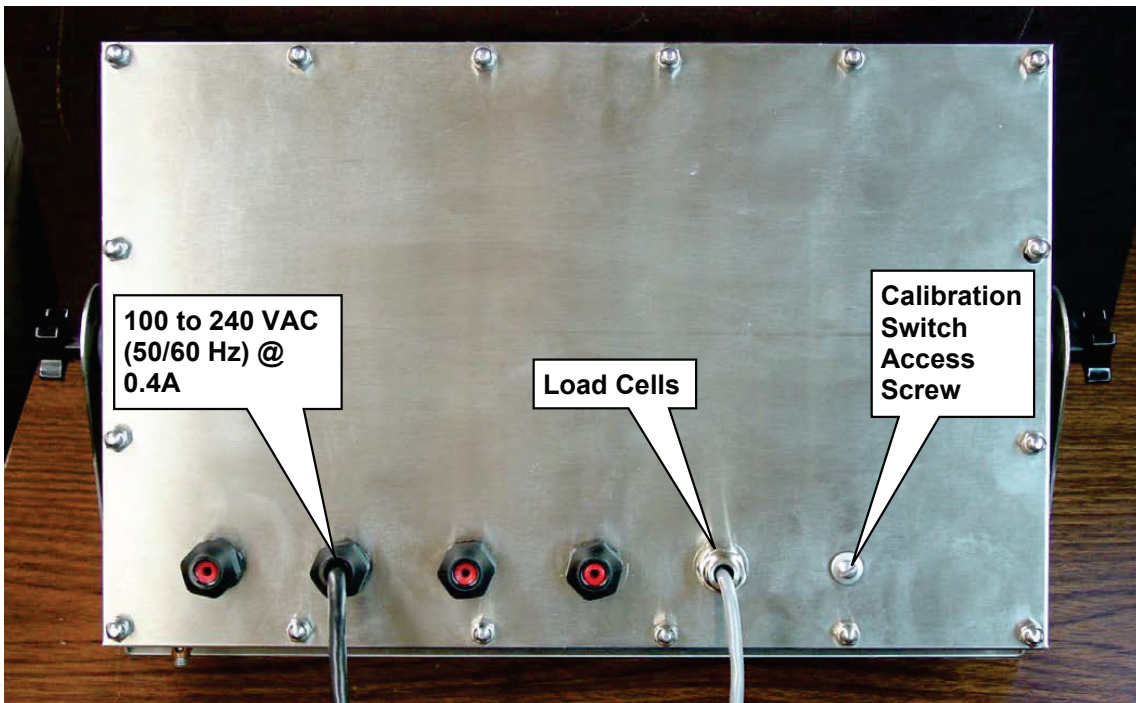

Figure No. 2
To eliminate RFI, the load cell cable should be routed through the special metallic gland connector and the shield wire from the load cell cable must be connected to this gland connector for grounding. Refer to Figure No. 2 for the gland connector layout.
2. Referring to Figure No. 2, choose a gland connector for the cable and then loosen it.
2. Loosen the gland connector for the serial cable. Refer to Figure No. 2 for the gland connector layout.